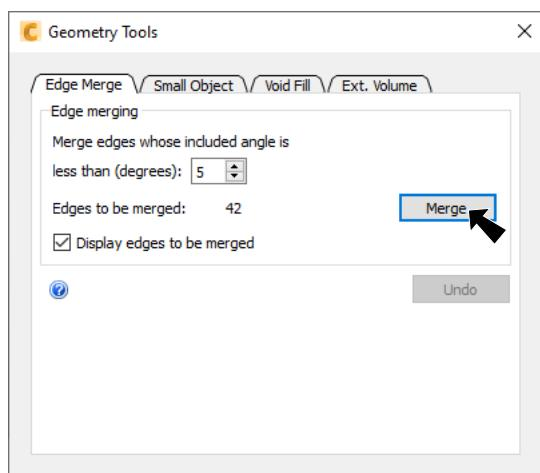

Fig. 23
Step 3. In the Geometry Tools dialog box on the **Edge Merge** tab  click **Merge**, **Fig. 23**.